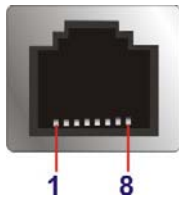

**Figure 3-19: RJ-45 RS-422/485 Serial Device Connection**
**Step 2: Insert the RJ-45 connector.** Insert the RJ-45 connector on the RJ-45 to DB-9 COM port cable to one of the RJ-45 RS-422/485 connectors on the TANK-800. See **Figure 3-19**.